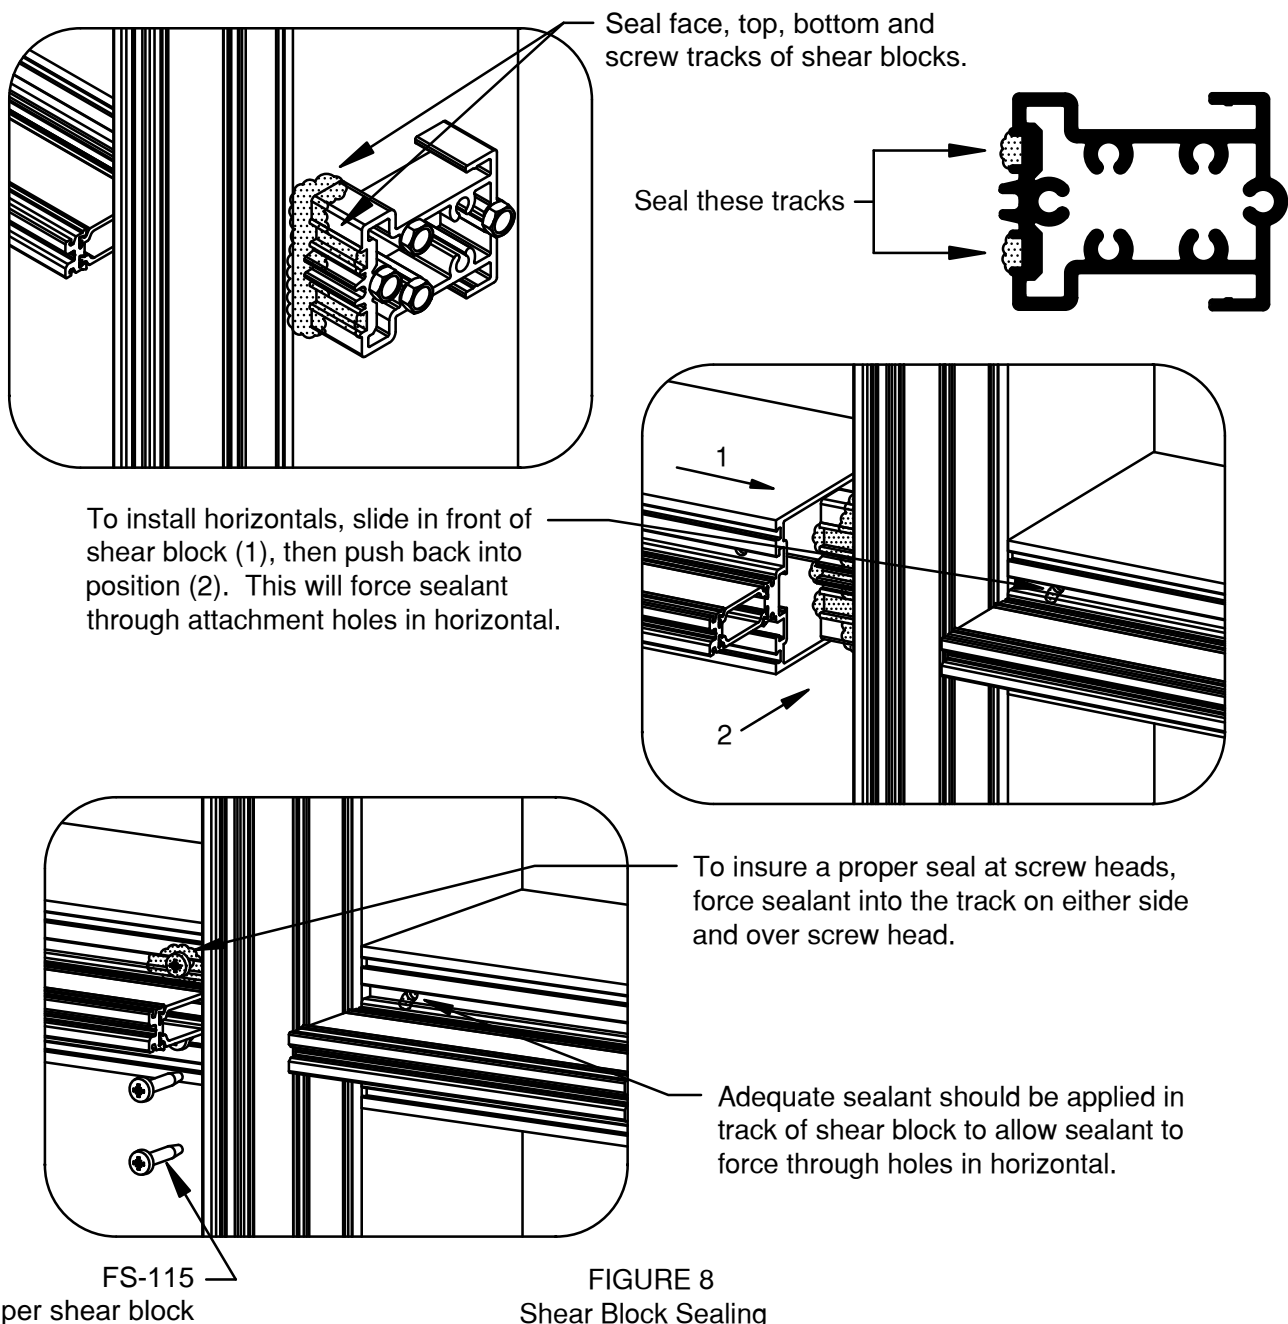

FIGURE 8
- 2.2 Seal around shear blocks prior to installing each horizontal mullion. Install horizontal mullions as shown in FIGURE 8. Prior to attaching screws, make sure sealant has been forced out of the holes in horizontal. If not, apply a liberal amount of sealant into each hole. Secure horizontals to shear block with two (2) FS-115 #10 x 1" Phillips Pan Head screw at each end of horizontal. Check head of screw to insure proper seal, sealing track on each side of screw.